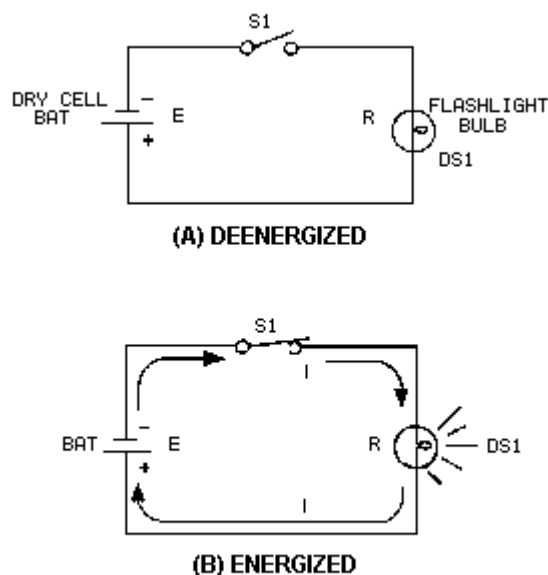

Figure 3-2.—Basic flashlight schematic.
The schematic in figure 3-2 represents a flashlight. View A of the figure shows the flashlight in the off or deenergized state. The switch (S1) is open. There is no complete path for current (I) through the circuit, and the bulb (DS1) does not light. In figure 3-2 view B, switch S1 is closed. Current flows in the direction of the arrows from the negative terminal of the battery (BAT), through the switch (S1), through the lamp (DS1), and back to the positive terminal of the battery. With the switch closed the path for current is complete. Current will continue to flow until the switch (S1) is moved to the open position or the battery is completely discharged.
- Q1. In figure 3-2, what part of the circuit is the (a) load and (b) source?*
- Q2. What happens to the path for current when S1 is open as shown in figure 3-2(A)?*
- Q3. What is the name given to the "picture" of a circuit such as the one shown in figure 3-2?*
if any two quantities are known, the third one can be determined. Refer to figure 3-2(B), the schematic of the flashlight. If the battery (BAT) supplies a voltage of 1.5 volts and the lamp (DS1) has a resistance of 5 ohms, then the current in the circuit can be determined. Using this equation and substituting values: